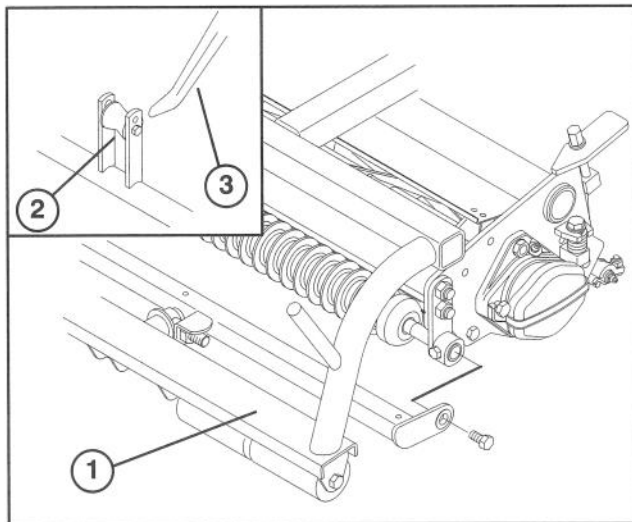

Figure 7
2. Slide the cutting unit under the pull frame while hooking the lift roller onto lift arm (Fig. 7).